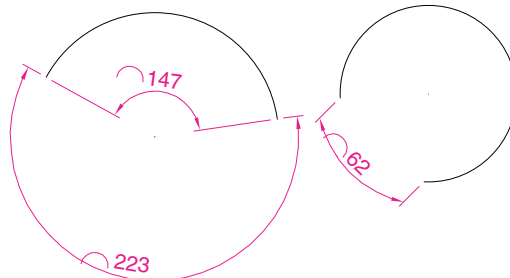

Fig. 6.19 Fifth example – **Arc Length** tool
Fifth example – the Arc Length tool (Fig. 6.19)
1. Construct two arcs of different sizes as in Fig. 6.19.
Examples on two arcs are shown in Fig. 6.19.